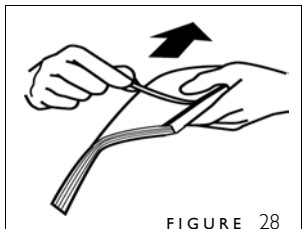

FIGURE 28
2. On the **front** of your bound book block, peel off the thin release paper (figure 28).